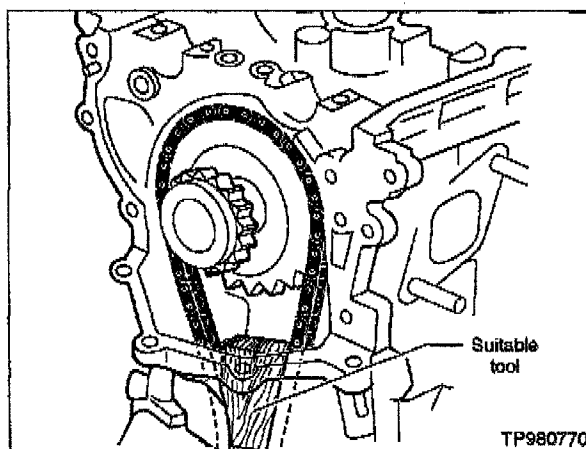

Figure 2
12. Support lower timing chain by using a suitable tool as shown in Figure 2 to avoid chain tensioner spring from coming out.